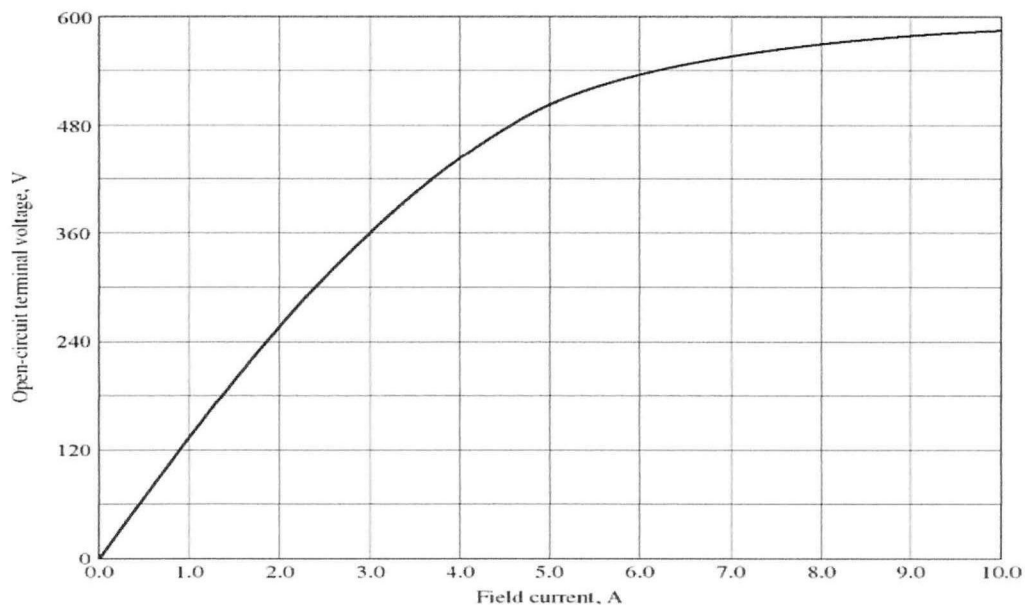

Figure Q2(c)
- (c) A 480 V 200 kVA 0.8 power-factor-lagging, 60 Hz two-pole Y-connected synchronous generator has a synchronous reactance of 0.25Ω and an armature resistance of 0.03Ω . At 60 Hz, its friction and windage losses are 6 kW, and its core losses are 4 kW. The field circuit has a dc voltage of 200 V, and the maximum I_F is 10 A. The resistance of the field circuit is adjustable over the range from 20 to 200 Ω . The OCC of this generator is shown in **Figure Q2(c)**.
- Q3** (a) Explain why a synchronous motor does not have a starting torque. Give **ONE (1)** method to start up a synchronous motor. (4 marks)